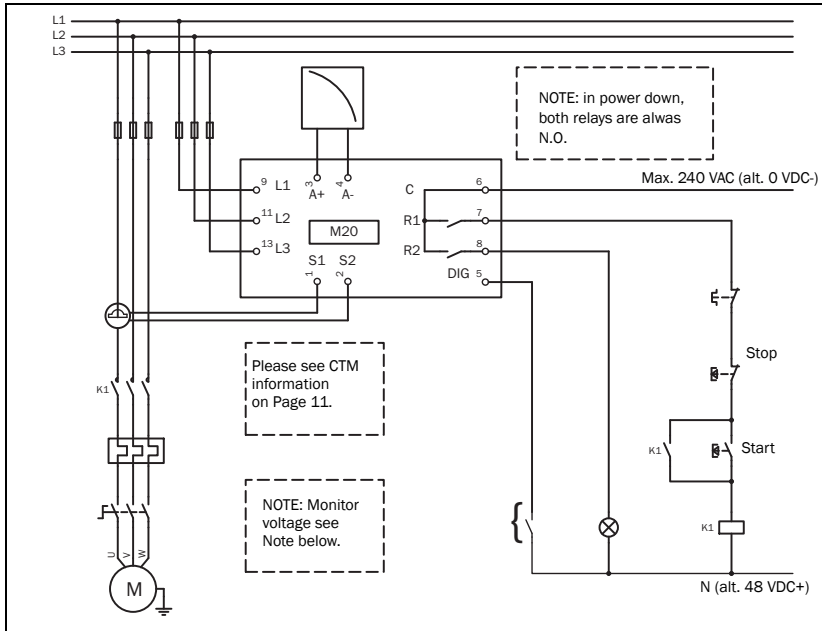
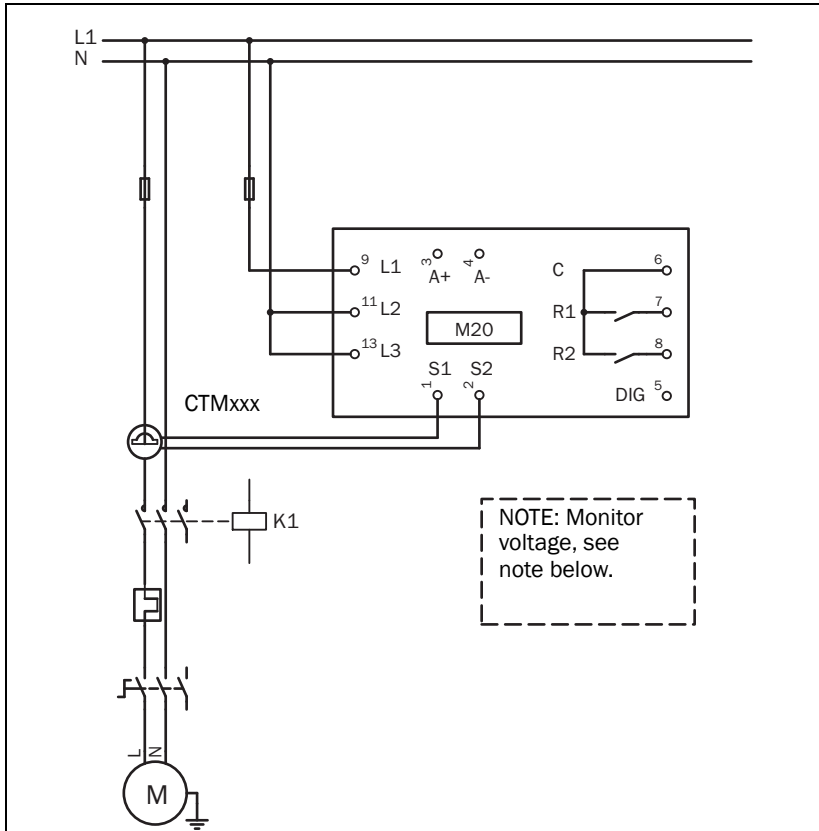

Fig. 1 Connection example
Fig. 2 Single-phase connection example.
1. Connect the Emotron M20 according to chapter 5 and Fig. 1.
The following wiring diagram provides an example of how the M20 can be connected to control the start/stop circuit of a three-phase motor, Fig. 1. Connections to a single-phase motor are described later in this manual (Fig. 2) as are the programming changes necessary for such applications. The default setting for the M20 is 3-phase.
1. The current transformer CTMxxx must be placed in the same phase that is connected to terminal 9, phase L1, see Fig. 1. Failure to follow this requirement will result in the monitor failing to function.
2. For single-phase connection see fig 2.
**Note: The current transformer (CTMxxx) must be placed in the same phase that is connected to terminal 9, phase L1, see Fig. 1.**
**NOTE: If the START/STOP is connected as per Fig. 1, it is recommended that terminals 6 and 7 be bypassed during programming. After the programming is completed the bypass must be taken out. Make sure that the monitor voltage range e.g. 3x380-500 VAC matches the connected motor/line voltage, e.g. 3x 400 V.**
This wiring example shows the connections required for single-phase applications. Refer to Fig. 1 for the remaining wiring.
**NOTE:** In Fig. 2 make sure that the monitor voltage range e.g. 1x100-240 VAC matches the connected motor/“line - neutral” voltage, e.g. 1x 230 V.
The digital input uses terminals 5 (DIG) and 6 (C - reference). Either a VAC or a VDC signal may be used. Connect + to terminal 5 (DIG) and - to terminal 6 for VDC signal. Please note the polarity when DC voltage is used. See also Fig1 and terminal 6: Max. 240 VAC (or 0 VDC-) and on terminal 5: N (or 48 VDC+). See also chapter 9, Advanced Features.